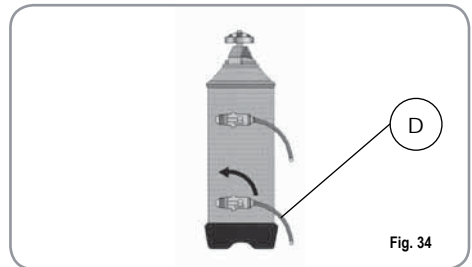

Fig. 34
3) Reposition lever D towards the left (Fig. 34).